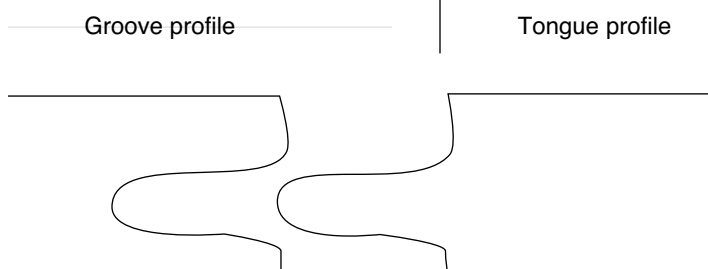

FIGURE 29
- ◆ Installing tongue-and-groove panels upside down can result in ridges in the subfloor. The tongue is designed to fit into the neighbouring panel in one specific direction (see Figure 29). If a panel is installed upside down, the tongue may fit into the groove, but the upside down panel will be at a different height than the neighbouring panel, thus creating a ridge at the interface of the two panels. Nails and staples will not have enough drawing power to pull the two materials together. The only way to repair this problem once it has occurred is to sand ridges or replace the panel.